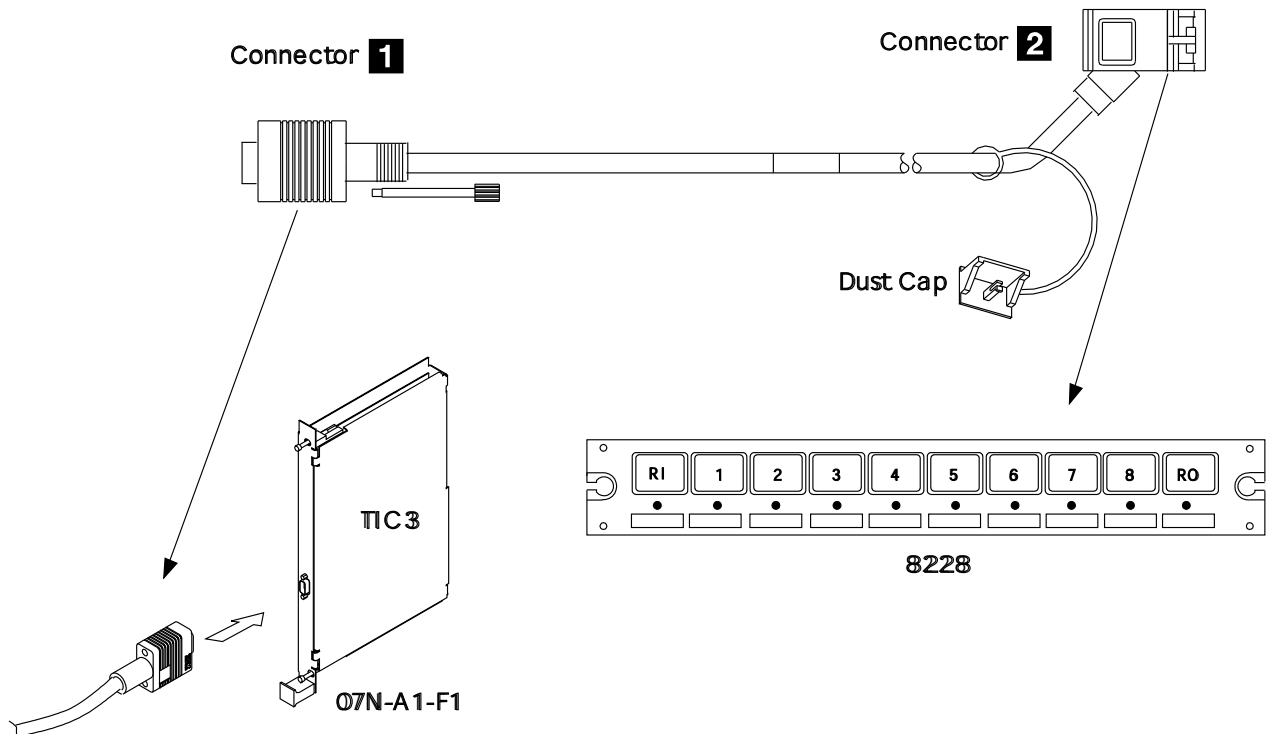

Figure 2-35. Connection of the 3746-900 to the LAN
- Step 4. ____ Plug **connector 2** to one of the 8228 LAN adapter plugs 1 to 8 (Refer to Figure 2-35 below).